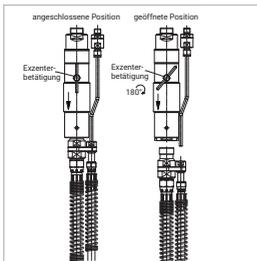

Figure 14
- ▶ Turn the eccentric actuator (Pos. 2) by 180° (*Figure 14*).